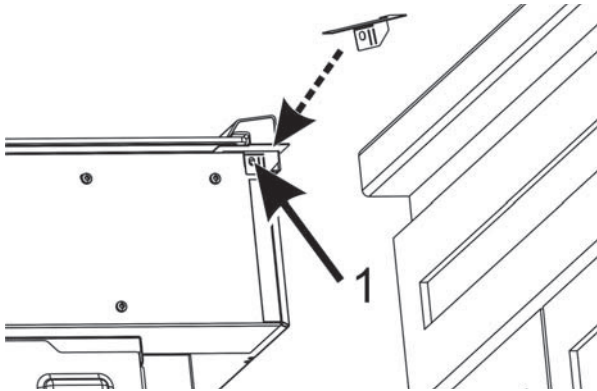

Figure 3: Right side corner cover placement
5. Place the right corner piece as shown (see Figure 3: Right side corner cover placement). Align the round hole in the corner cover with the hole at 1.